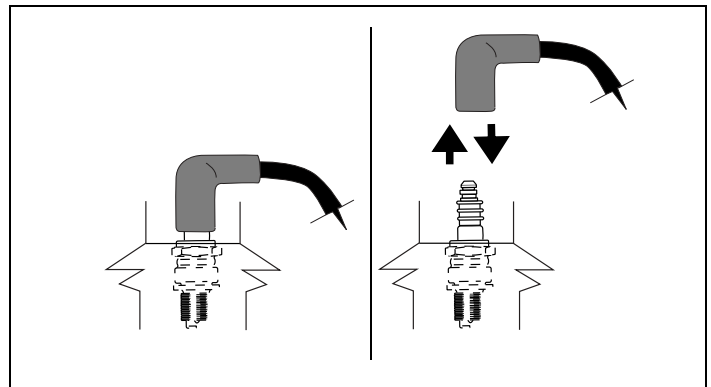

Figure 35. Disconnecting/Connecting Spark Plug
- Carefully disconnect spark plug wire and keep it away from spark plug. See Figures 35 and 36.